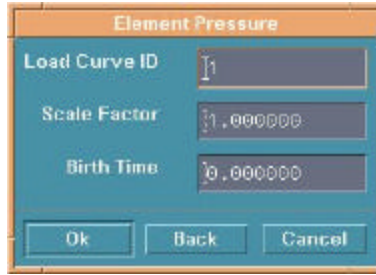

Figure 6.7.4 Define Element Pressure
- Define element pressure see Figure 6.7.4.
- Select OK in Figure 6.7.4 to select element to load.
- Select CANCEL in Figure 6.7.4 to exit.